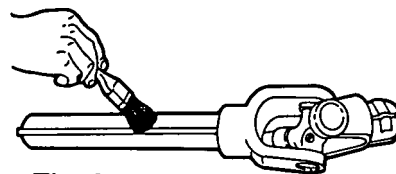

Fig. 8
- 9 Apply a coating of grease to the telescoping parts of the driveline Fig. 8.